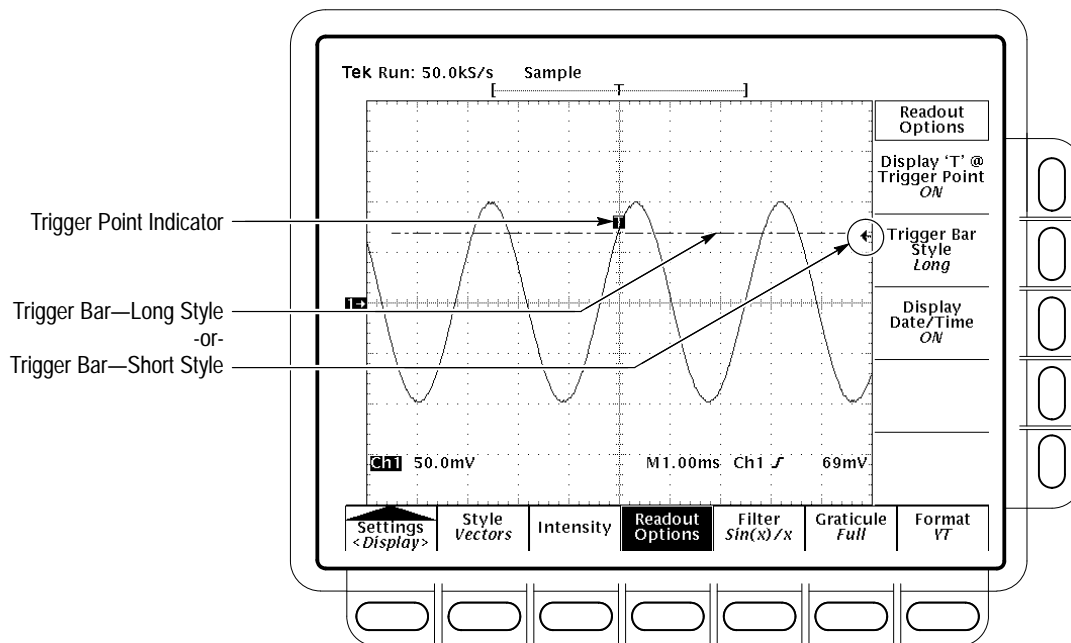

Figure 3–18: Trigger Point and Level Indicators
3. Press **Trigger Bar Style** (side) to select either the short or the long trigger bar or to turn the trigger bar off. (See Figure 3–18. Note that both styles are shown for illustrating purposes, but you can only display one style at a time.)